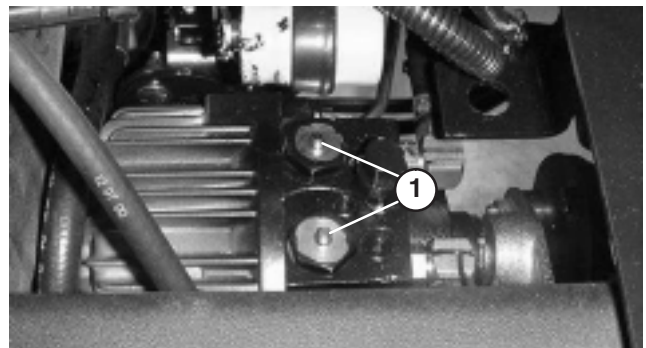

Figure 28
2. Depress and hold the pins located in the center of the two (2) check valve assemblies in the top of the transmission (Fig. 28) while pushing or towing the machine.
Apply a liberal coating of grease to the check valve pins once each year (Fig. 28). Also grease the bearings in the rear axle every 500 hours, or yearly, whichever comes first (not shown). The bearing and bushing lubrication points are: